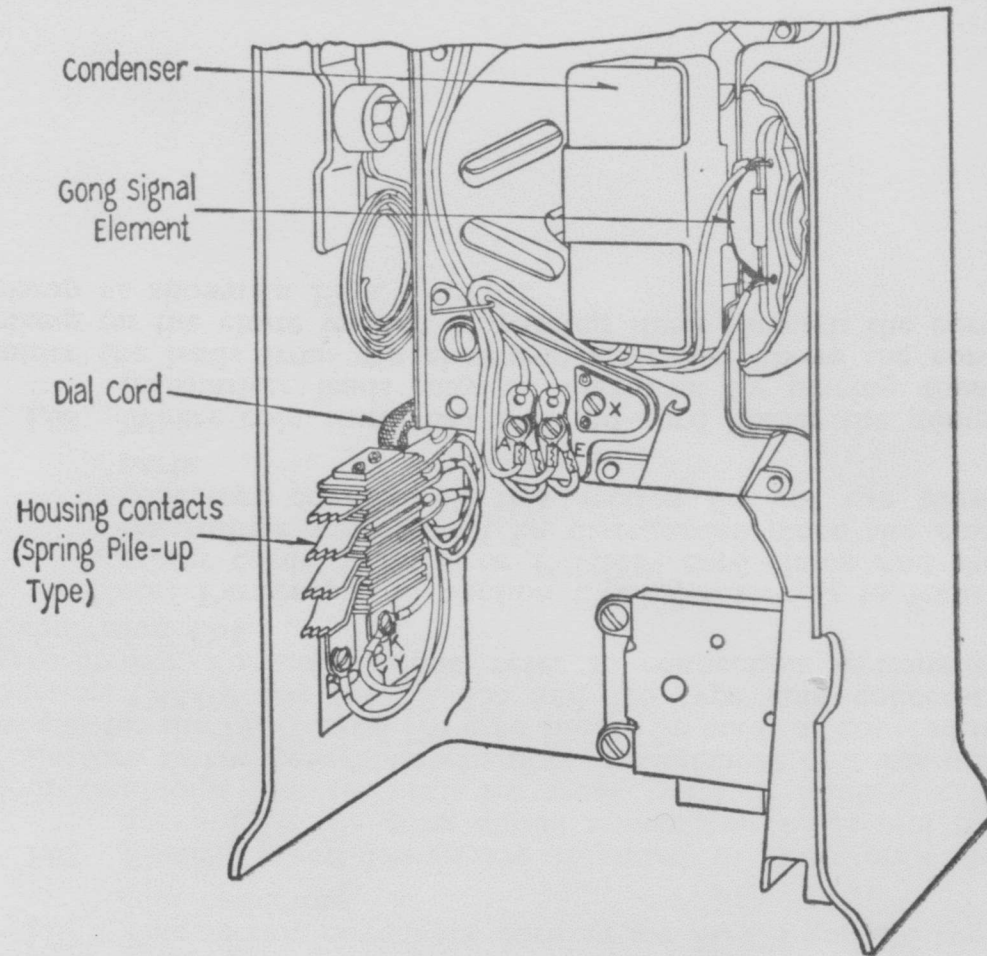

Fig. 1—74 and 174 Type Coin Collectors—Upper Housing
1.03 Where coin chute has a closed cord holder the gongs transmitter leads may be anchored by placing them under the leads from the electro-magnet just above the cord clamp on the chute instead of passing them through the cord clamp as shown in Figs. 1 and 2.